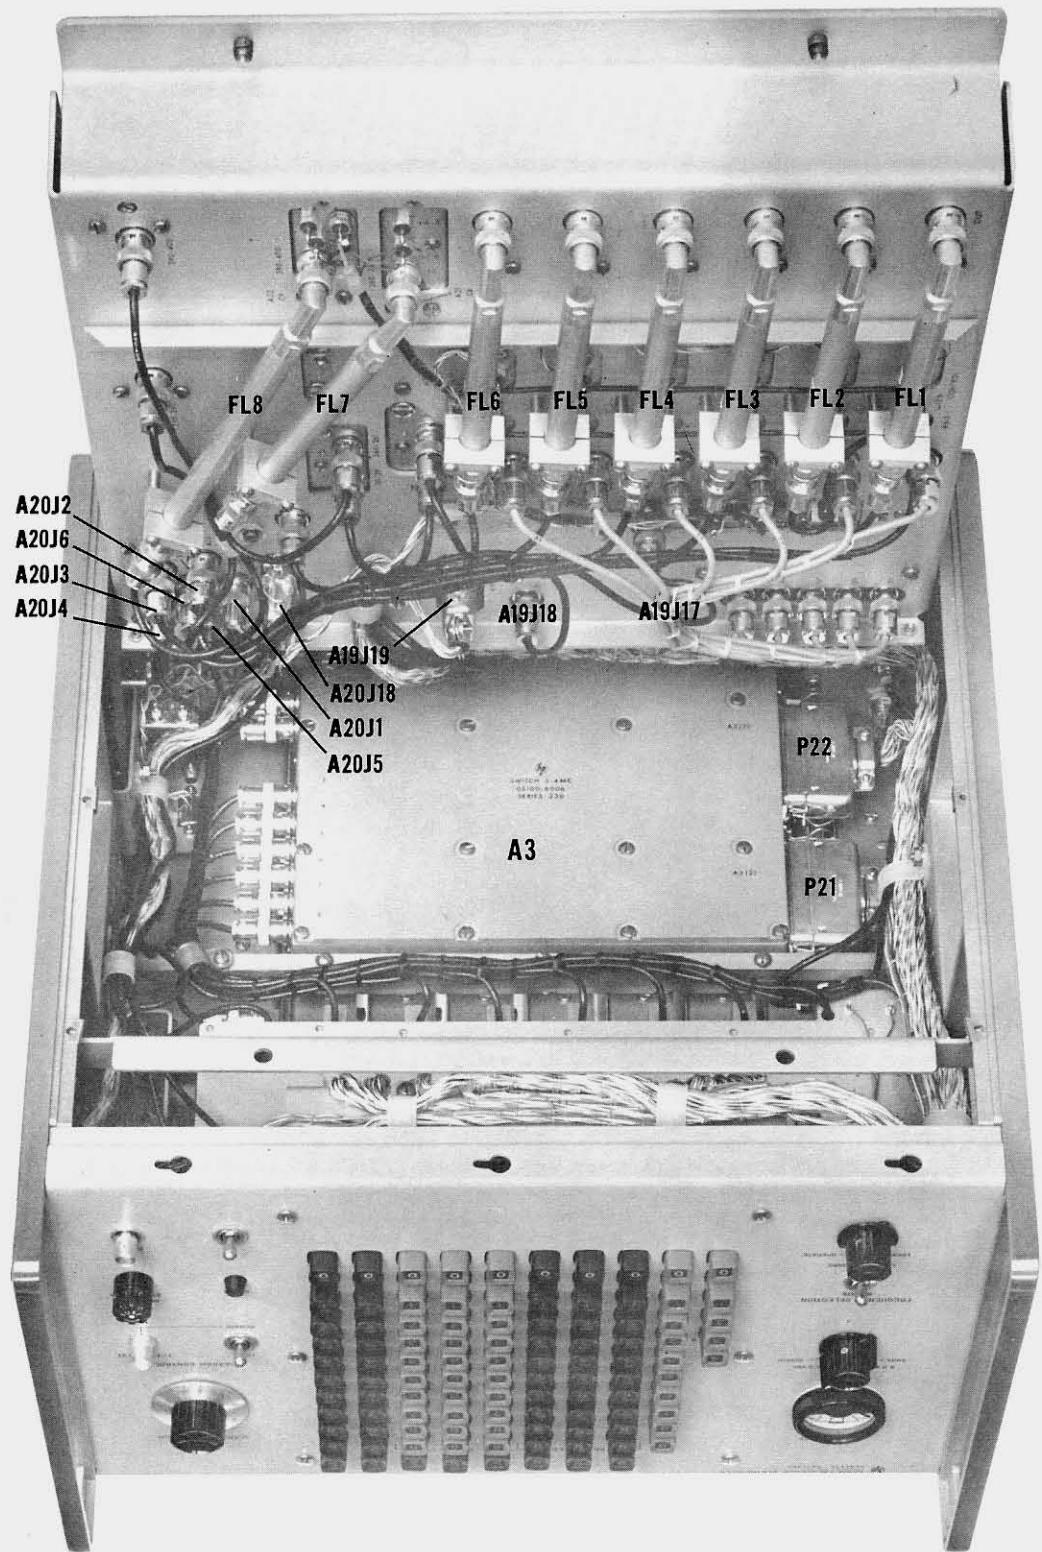

Figure 5-9. Component Location - UHF Deck Swung Out
b. Disconnect 39 Mc cable to A13 input (see Figure 5-9) and connect 39 Mc from an $\frac{1}{2}$ 5110A.
d. Remove cable marked "390 Mc" which connects output of FL1 and 350 to 390 Mc Switch A20 (see Figure 5-9).
5-75. To measure insertion loss, swing out UHF deck (see Figure 5-9) and connect the input of the desired switch through a BNC "T". Connect another BNC "T" to J6. Using the appropriate front panel pushbutton, or remote programming, turn the switch "on". Measure the input with an $\frac{1}{2}$ 411A RF Millivoltmeter (use db scale). Measure the output with the RF Millivoltmeter. The difference in db readings is the insertion loss of that diode switch. Insertion is normally less than 1 db.